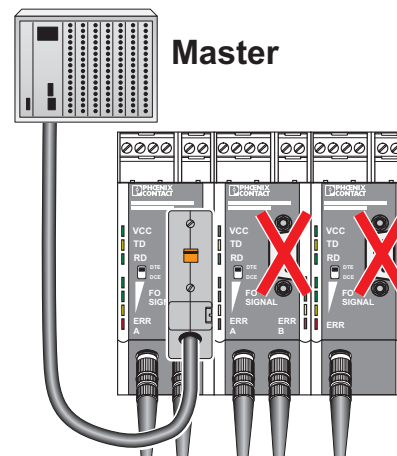

Figure 12 Connecting the data cables
- Connect the V.24 (RS-232) connection via the 9-pos. D-SUB pin strip on the top of the device (see Figure 12)